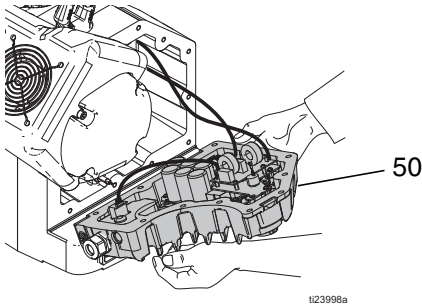

FIG. 21: Tilt Electronics Cover
4. Carefully tilt electronics cover (50) down. See FIG. 21, page 16.